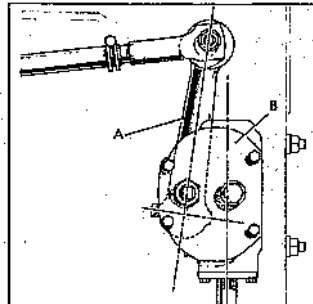

Fig. 11.15 Drop arm fitting position (A) to steering box (B) (Sec 17)
- 5 To refit the drop arm set the steering box so that it is in the mid-travel position (Fig. 11.15).